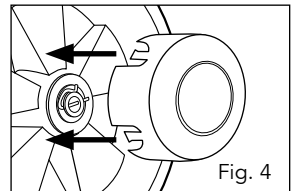

Fig. 4
4. Fit the second wheel (13) to the empty end of the axle (33) and secure it with the other washer (30) and the R-clip (31).
5. Push the covers (32) on to the outside of the wheels (13) so that the hooks on the covers (32) clip into the slots in the wheel (13). (Fig. 4).